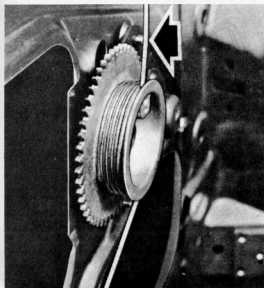

Fig. 12.11. Attachment of cable to window regulator drum (Saloon models). (Sec. 13)
- 18 Keeping tension in the cable, rotate the regulator drum (anticlockwise on RH door, clockwise on LH door) until 4 grooves on the drum are full, and the outer cable attachment is vertical (Fig. 12.11). Ensure the outer cable doesn't wind onto the drum.